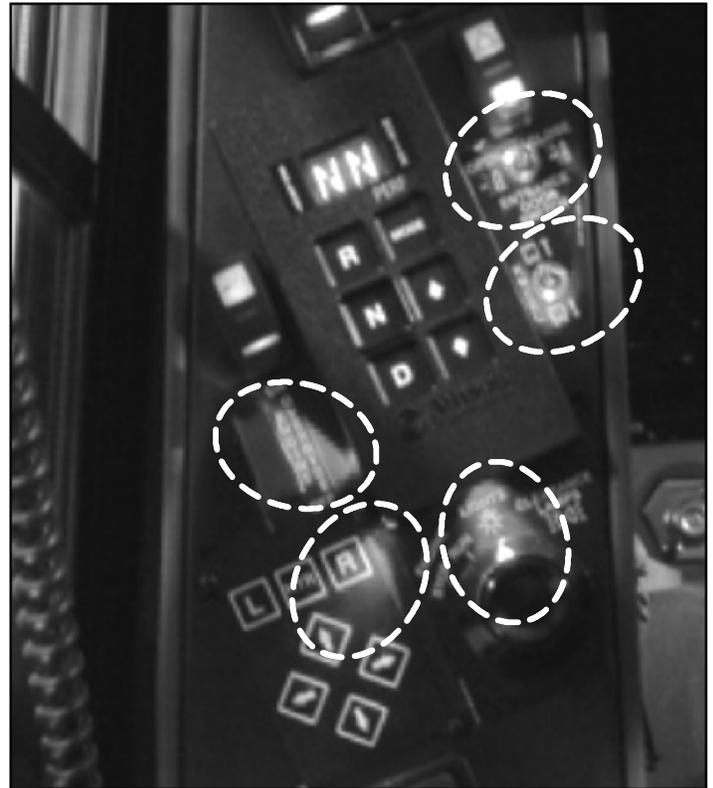

FIGURE 22. PBSS side lights.
The PBSS features six (6) green lights located on the side face of the cover plate which illuminates the console panel during night driving (Figure 22). This feature aids the operator in locating switches in low light environments.